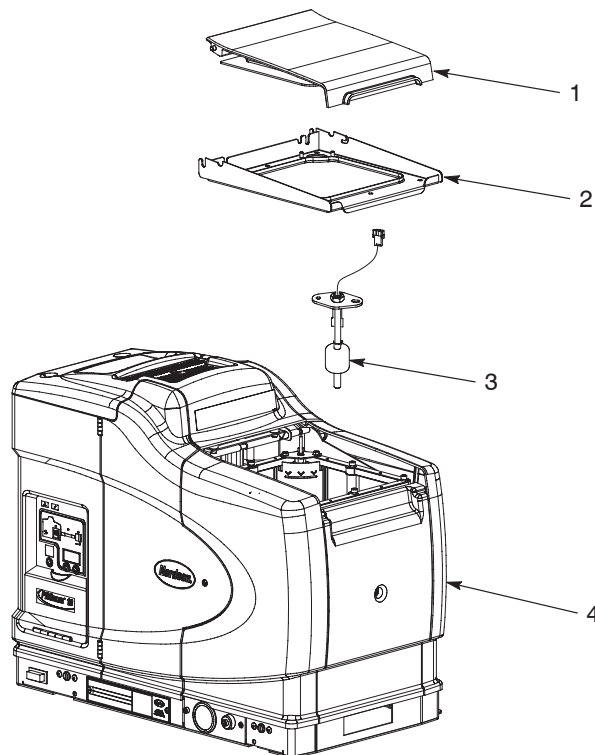

Figure 3-7 Removing the P10 lid, tank cover, level switch, and pump inlet screen
2. See Figure 3-7. Remove the following components from the P10 unit:
- lid assembly (1) (part 1025579)
- tank cover (2) (part 1018190)
- level switch assembly (3) (part 1028570)
- pump inlet screen (4) (part 1017892)